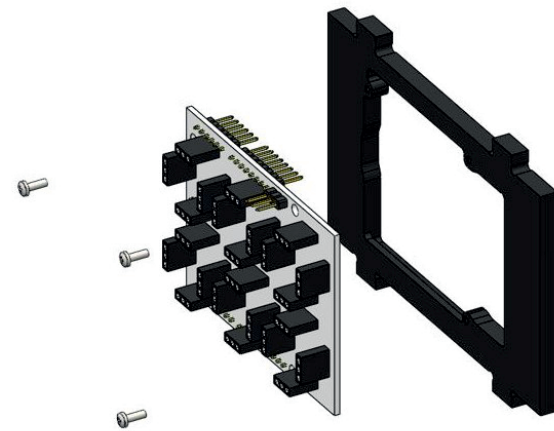

Fig. 38: Securing the Troyka board
5) Secure the Troyka Slot Shield board to the bracket using three M2x6 screws (Fig. 38):